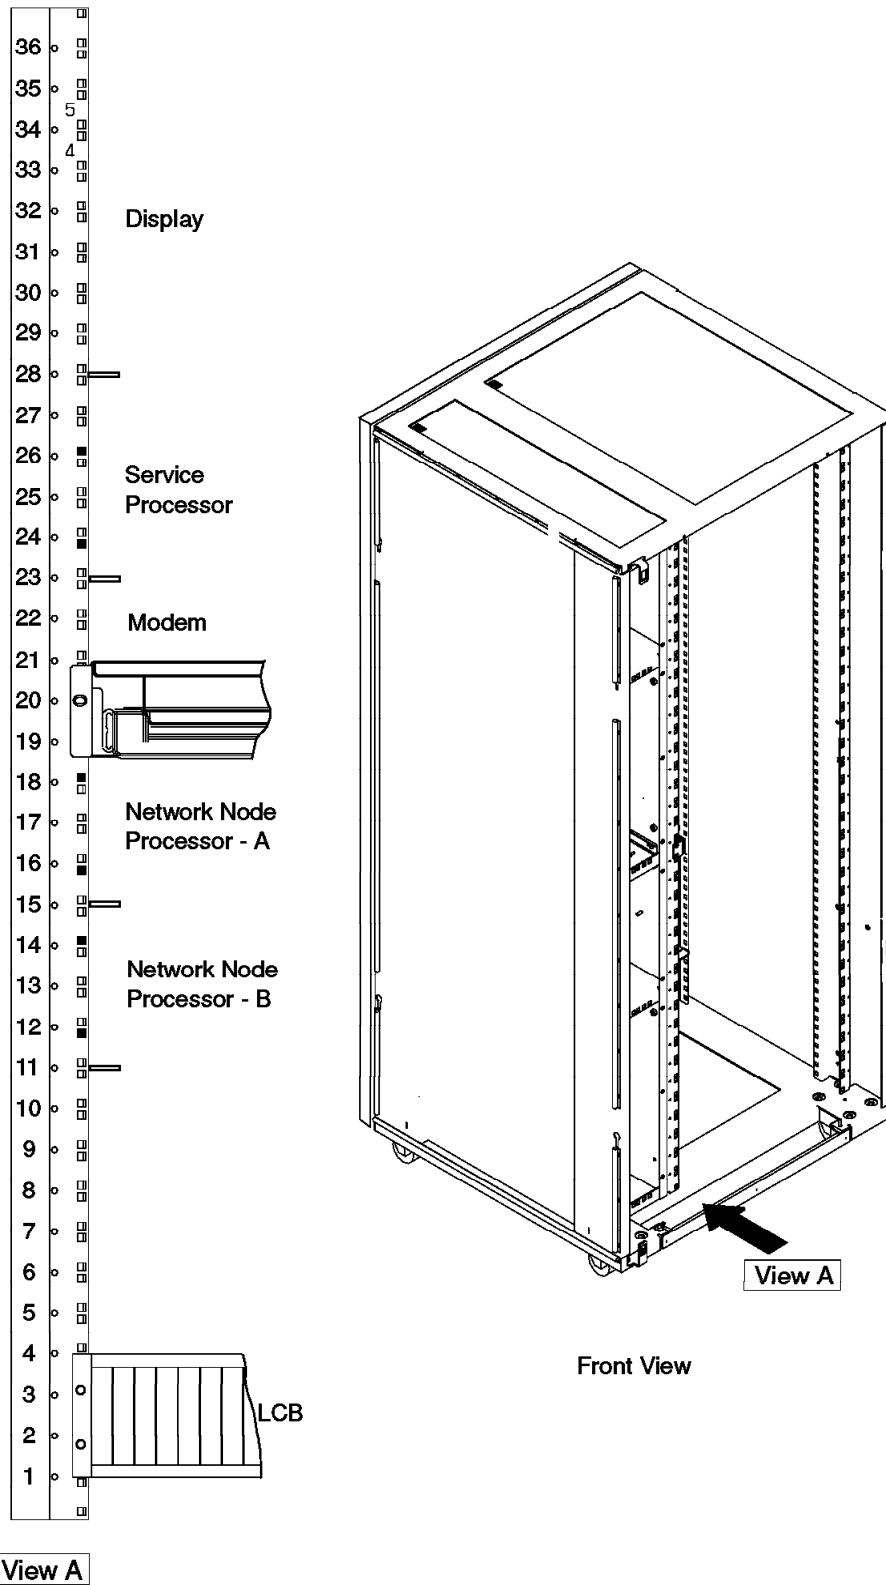

Figure 5. Installing Brackets for Processor Type 7585
- 4. Install four captive nuts (PN 58G5766) on the left and right side of the controller expansion (Refer to Figure 5 on page 7).